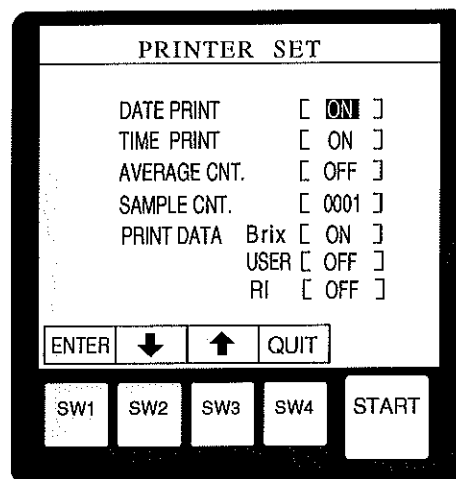

Fig. 11-5
- c) The display switches to a screen as shown in Fig. 11-5. In this figure the printout items are set as shown below.